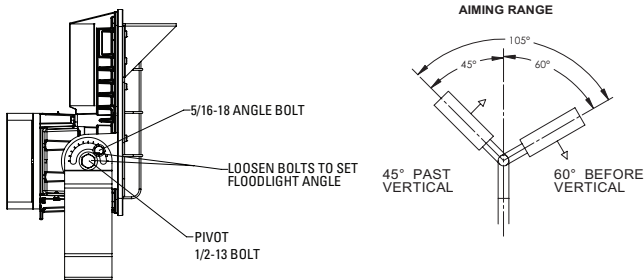

Figure 3
- Re-install back cover/heat sink and tighten all nine (9) mounting screws to 22 in.-lbs. (2.5 N-m). Be sure wires are not pinched during cover installation.
- To make final vertical adjustment, loosen the pivot bolts on the floodlight yoke to position floodlight at the desired angle. See Figure 3.
- Tighten the two (2) 1/2-13 pivot bolts to 45 ft.-lbs. (61 N-m).
- Tighten the two (2) 5/16-18 angle marker bolts to 138 in.-lbs. (15.6 N-m).